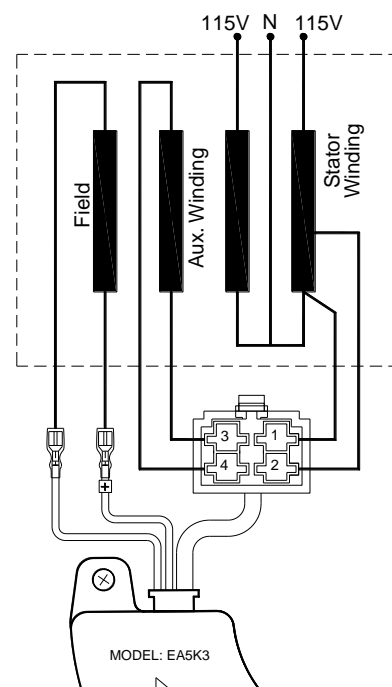

Figure 1 Connection
- Figure 1, show the plug connections numbered 1, 2, 3 and 4.